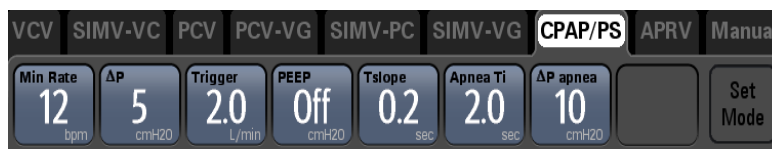

FIGURE 5-20 Continuous Positive Airway Pressure/Pressure Support (CPAP/PS) Tab
2. Check that all parameters are set appropriately. If necessary, select the parameter softkey to edit the parameters settings (see FIGURE 5-20). You can use the digital keyboard on the screen to enter the desired value, or continuously